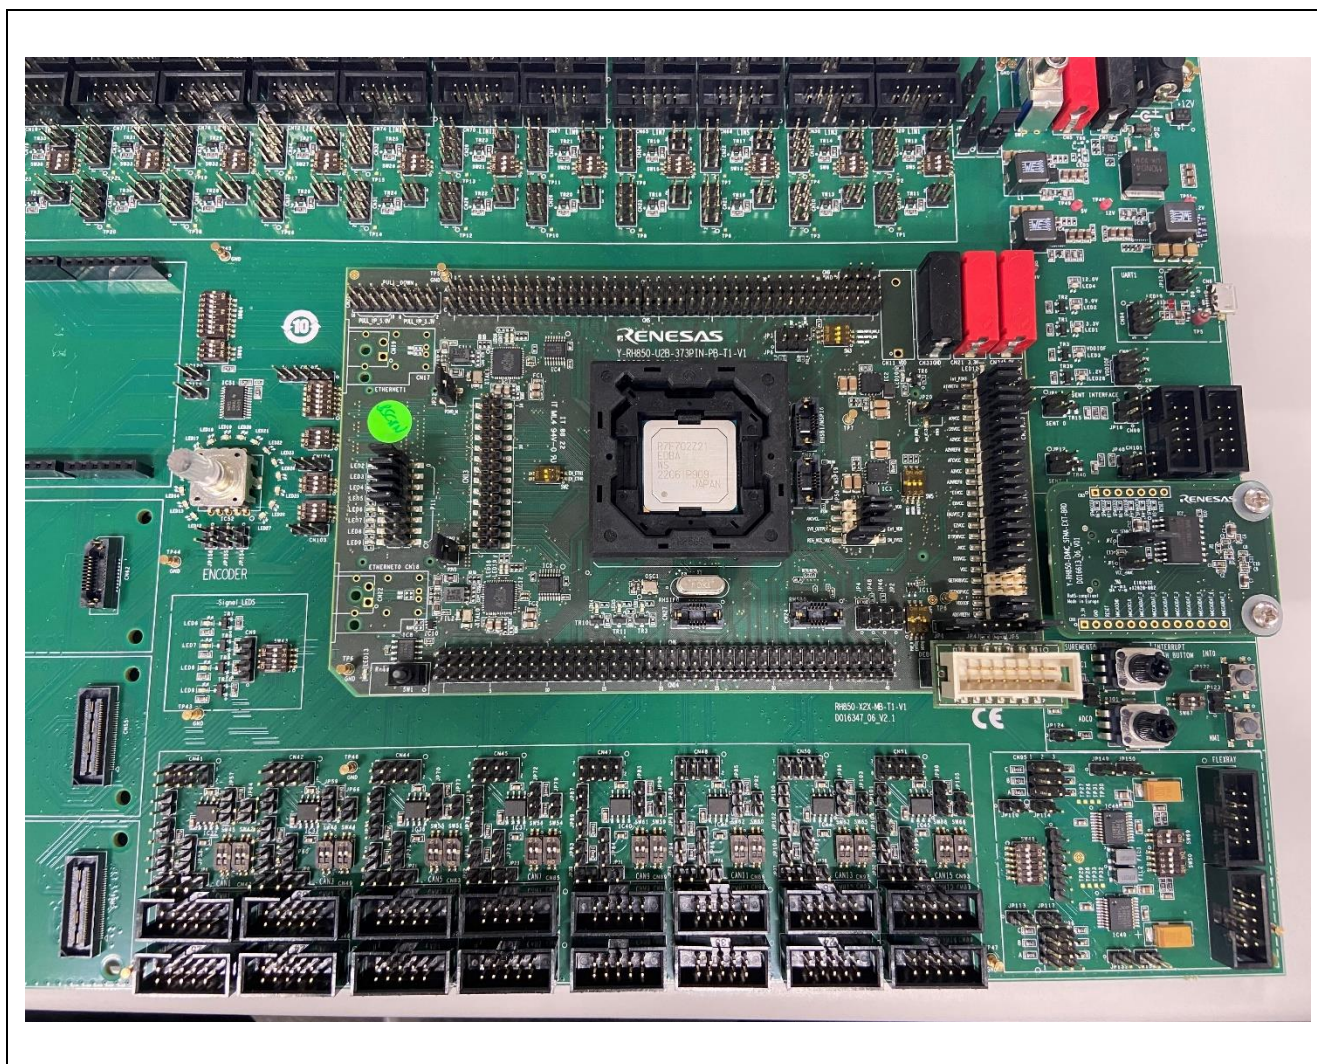

Figure 10 Connection Piggyback board to peripheral module eMMC/SFMA
- Connection between U2x target device on Piggyback board and serial flash IC should be done by CN98 and CN2 (Figure 10 Connection Piggyback board to peripheral module eMMC/SFMA). Please refer to Table 6 Connection table for U2B Group between Piggyback board and peripheral module eMMC/SFMA and Table 7 Connection table for U2C Group between Piggyback board and peripheral module eMMC/SFMA.